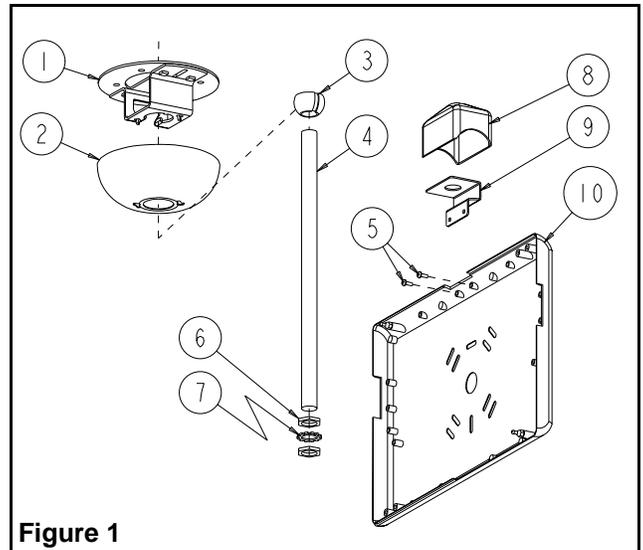

Figure 1
4. Thread the 3/8" IPS swivel nut onto the stem (see fig. 1) until even with top of stem.